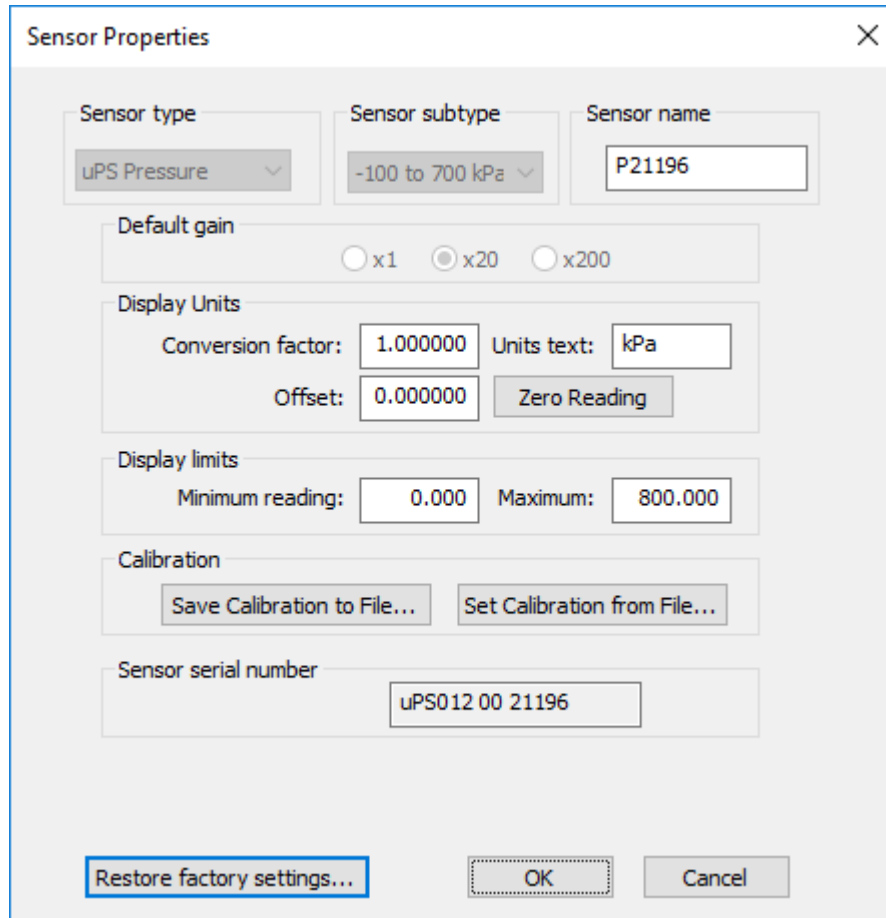

Figure 17 Sensor Properties Window
2. Click on each sensor to bring up its Sensor Properties window (Figure 17)